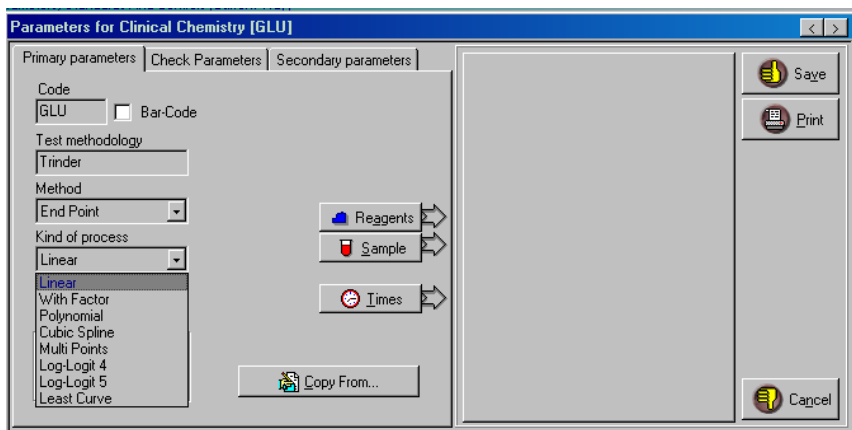

Figure 13
- Available Methods (Fig.13)**
- Sample Blank type (A)
- Sample Blank type (B)